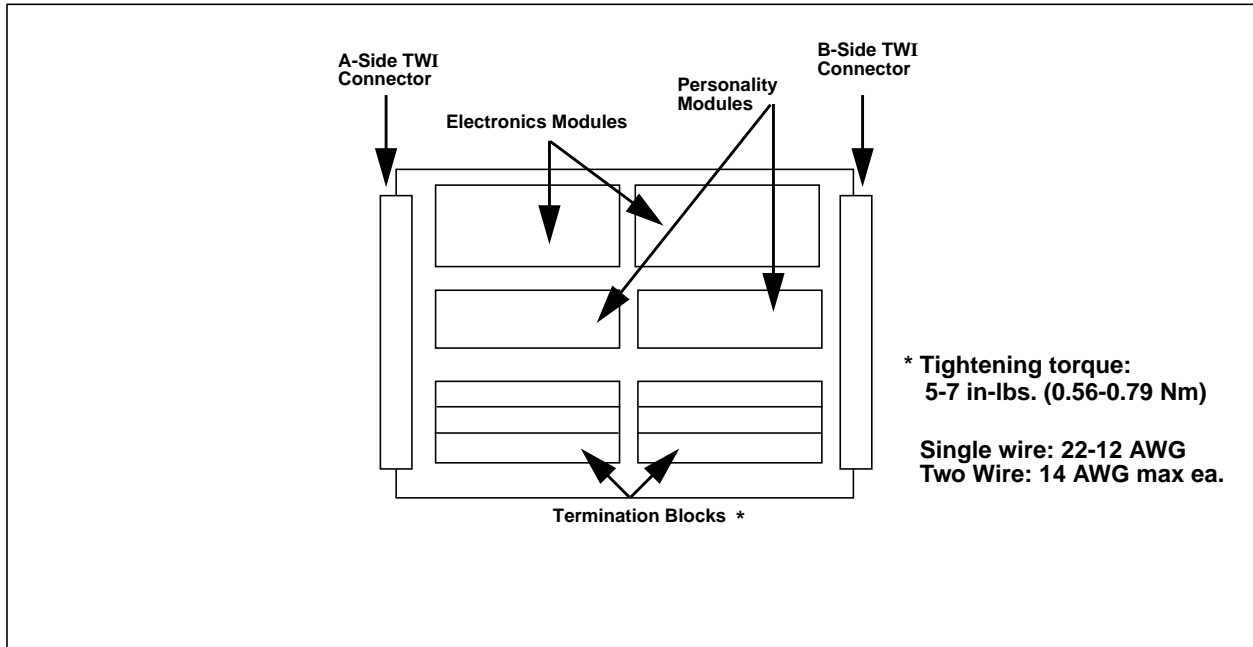

Figure 26-5. Ovation Standard I/O Modules and Base Units
- Standard I/O Modules and Bases - Standard Ovation I/O modules which interface to field devices (refer to Figure 26-5).
- Standard I/O Modules and Base - Standard Ovation I/O modules which interface to field devices (refer to Figure 26-5).